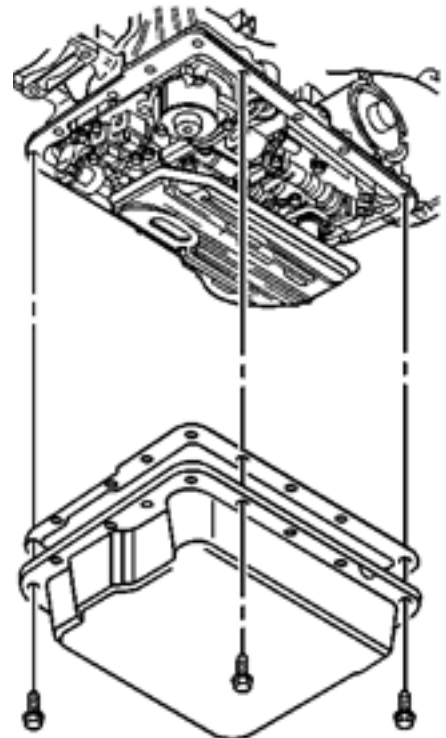

Figure 13
6. Install the oil pan bolts and tighten alternately and evenly to 11 Nm (97 lb in). **Reference Figure 13.**